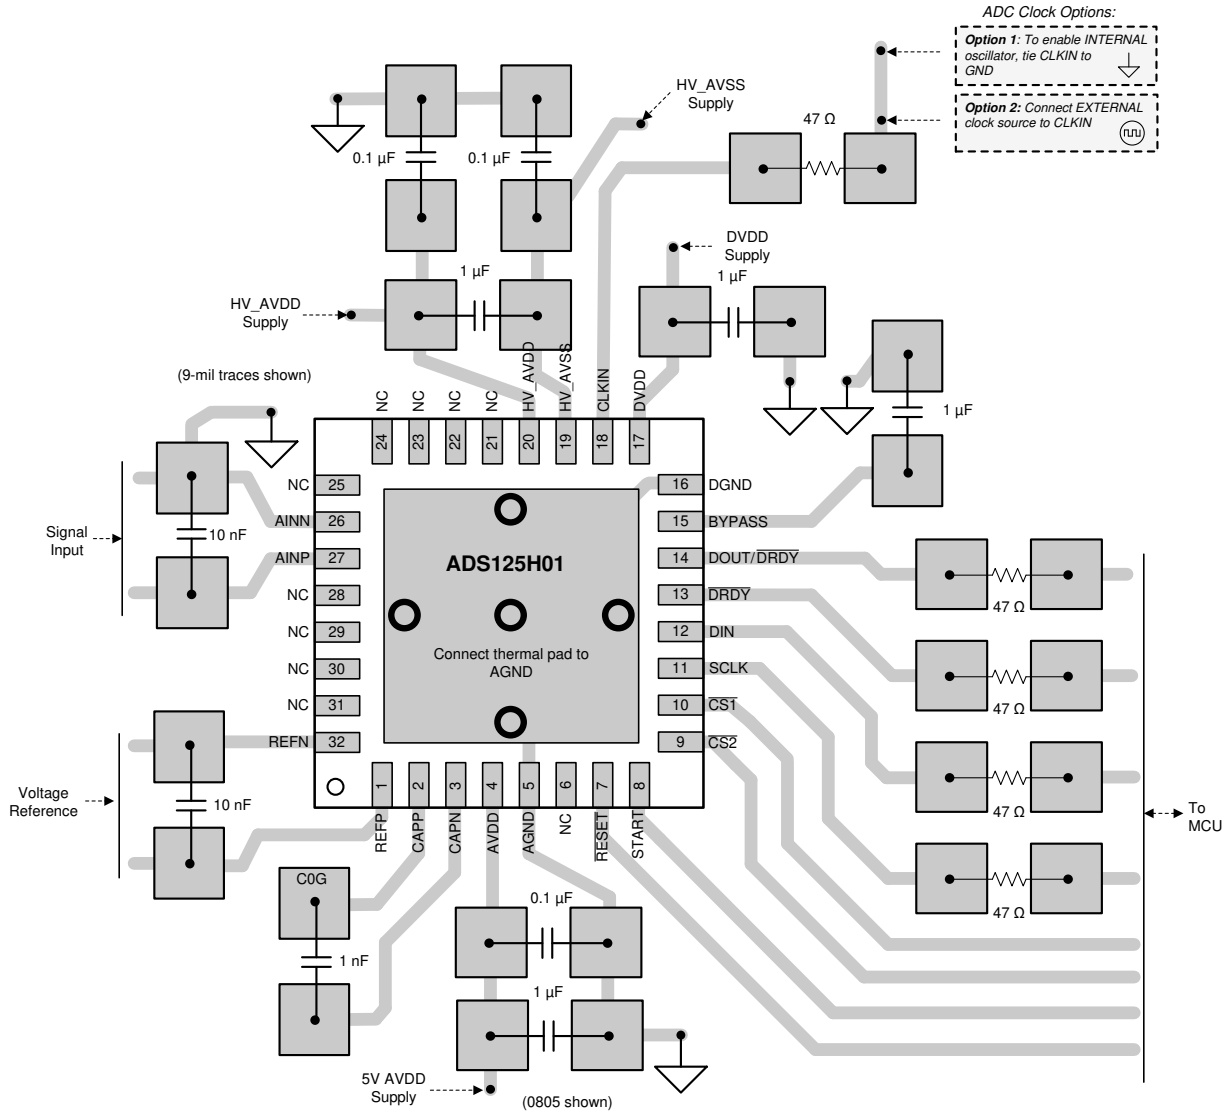

图 12-1. Example Top-Layer PCB Layout
**Figure 12-1** illustrates an example layout of the ADS125H01, requiring a minimum of three PCB layers. The example circuit is shown with bipolar supply operation (± 15 V). In this example, the inner layer is dedicated to the ground plane and the outer layers are used for signal and power traces. If a four-layer PCB is used, dedicate an additional inner layer for the power planes. In this example, the ADC is oriented in such a way to minimize crossover of the analog and digital signal traces.